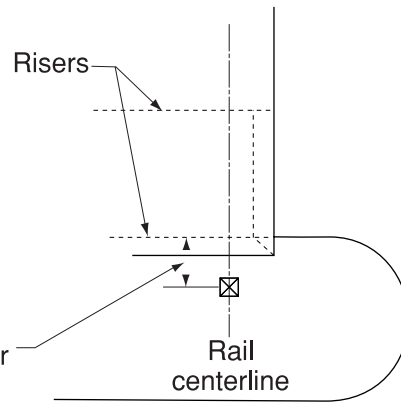

Fig. 5-17
2. From the face of the second riser, measure this distance and draw a line on the bullnose tread that intersects with the rail centerline. This will cause the back baluster of the large turnout to match the back baluster on the other treads. Please note Fig. 5-17 here.